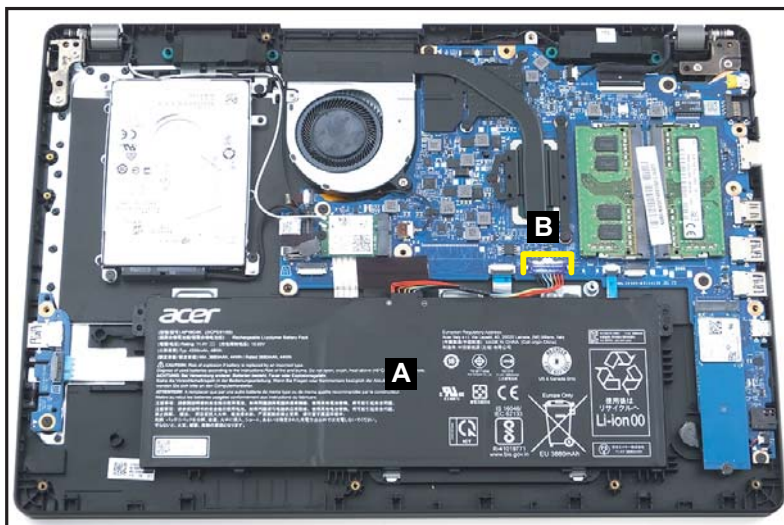

Figure 1-117. Replacing the Battery Pack
1. Place the battery pack (A) to its compartment on the system. Then connect the battery cable to the mainboard connector (B) (Figure 1-117).